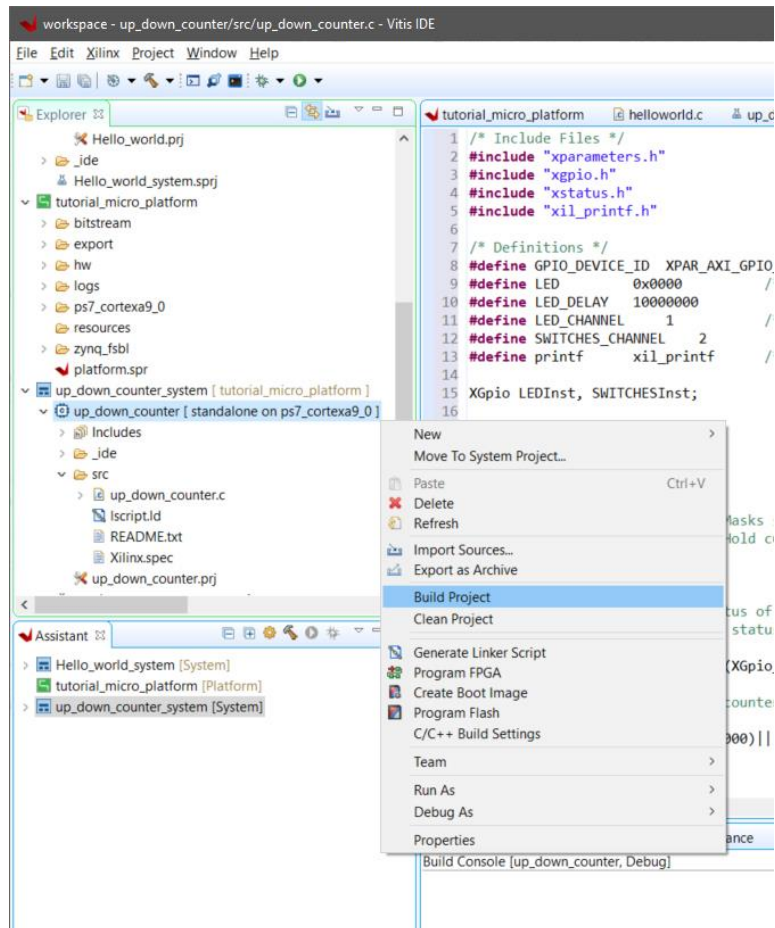

Figure 41
12. To compile the new application project, right-click on the project folder and select **Build Project** (Figure 41)